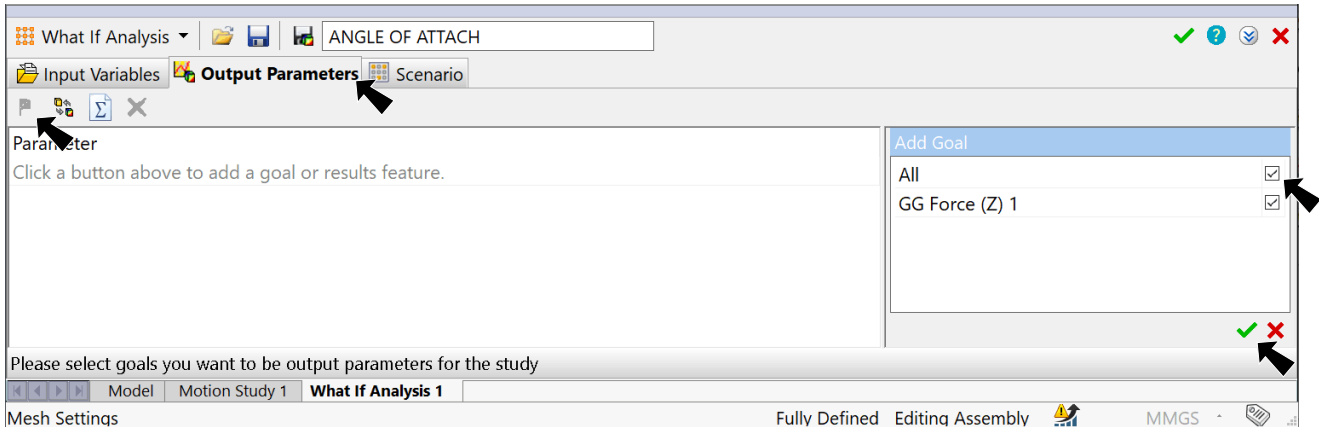

Fig. 8
Step 1. Click the **Output Parameters** tab  **Output Parameters**, Fig. 8